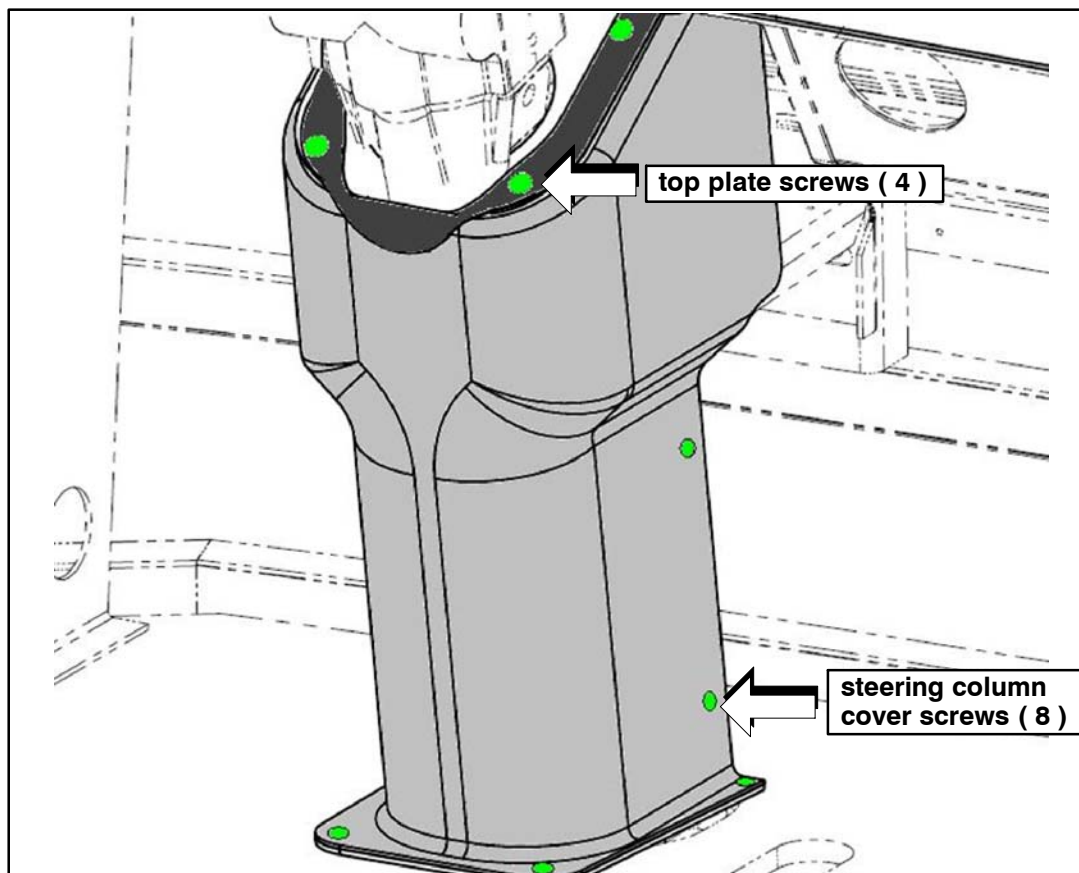

Figure 1.
2. Locate the steering column cover assembly below the steering wheel. Remove and retain the four screws on the top plate, and the eight screws on the steering column cover assembly ( refer to Figure 1 ).